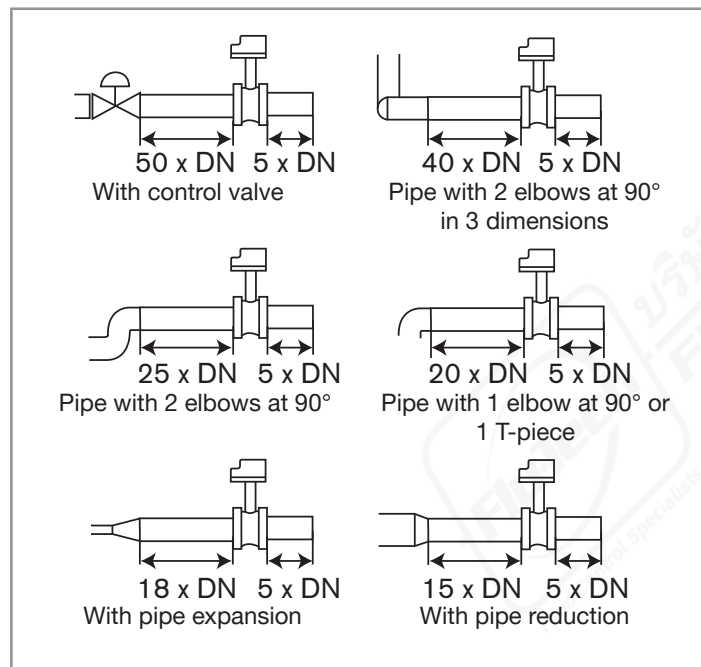

Fig. 7: Upstream and downstream distances depending on the design of the pipes.
- Install the device on the pipe to have the upstream and downstream distances respected according to the design of the pipes, refer to standard EN ISO 5167-1 and Fig. 7: